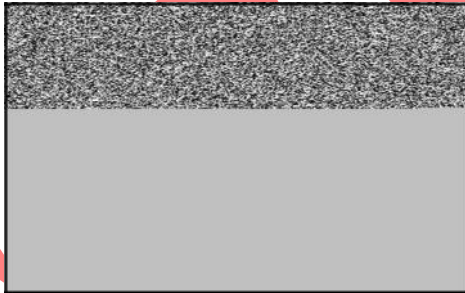

Figure 17
5. Lubricate outside diameter of new ball bearing. Place ball bearing on support (A, Figure 17).
6. Insert small end of installation driver (B) in oil seal bore. Assemble washer (C) to puller screw (D).